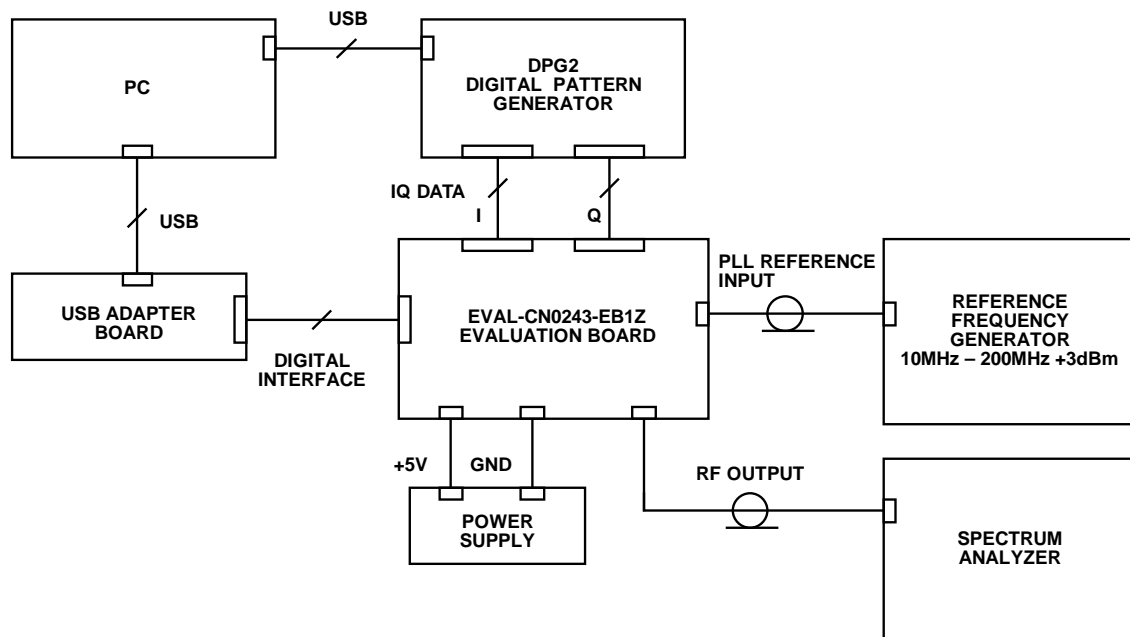

Figure 13. Test Setup Functional Block Diagram
1. Before powering up, connect all instruments, USB adapters, and cables, as shown in Figure 13.
data rate should be equal to the DAC sample rate (614.4 MSPS) in Figure 13 divided by the programmed interpolation rate of the AD9122.